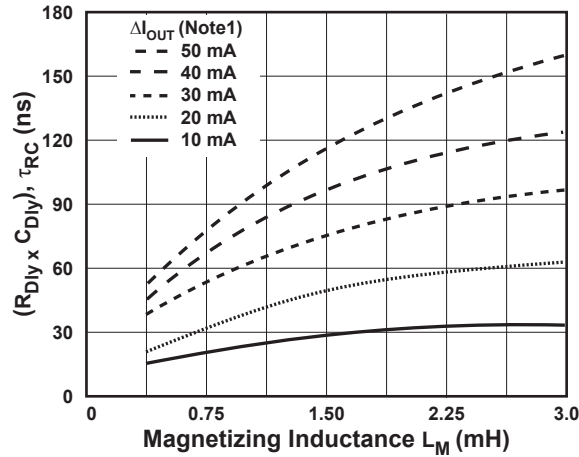

Figure 12.7 : TON Compensation Chart RDS(ON) = 55-250Ω
- Find the curve that best matches this difference from Figure 12.7.